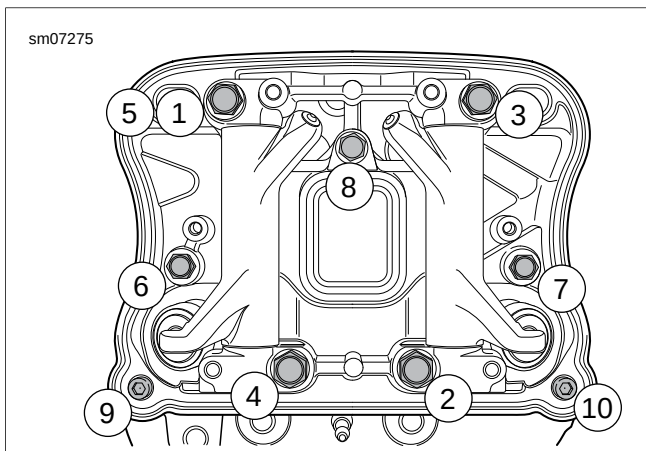

Figure 3-99. Inner Rocker Cover Torque Sequence
- See Figure 3-99. Tighten the fasteners in sequence:
- Tighten the four large bolts (1, 2, 3, 4) and then re-tighten the first fastener (5) to 18-22 ft-lbs (24.4-29.8 Nm).